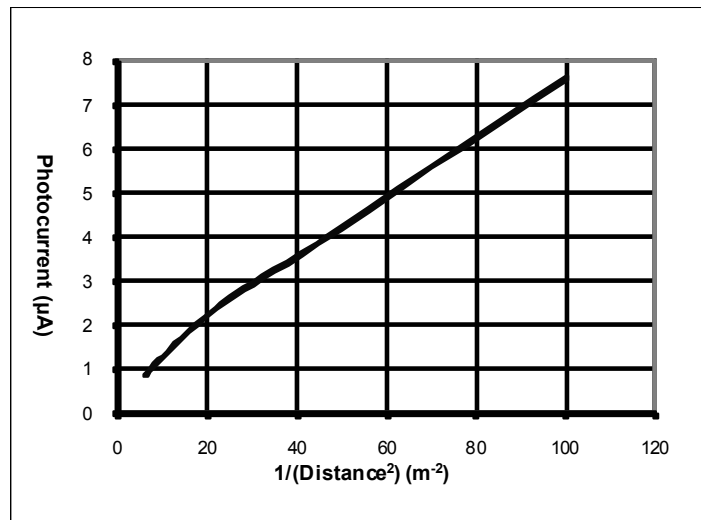

Figure 11
- The photocurrent is expected to vary linearly with the intensity of the illumination. *Figure 11* is a typical plot of the measured photocurrent against the inverse square of the distance between the lamp filament and the photocathode. It shows an approximately linear relationship but with clearly visible deviations.